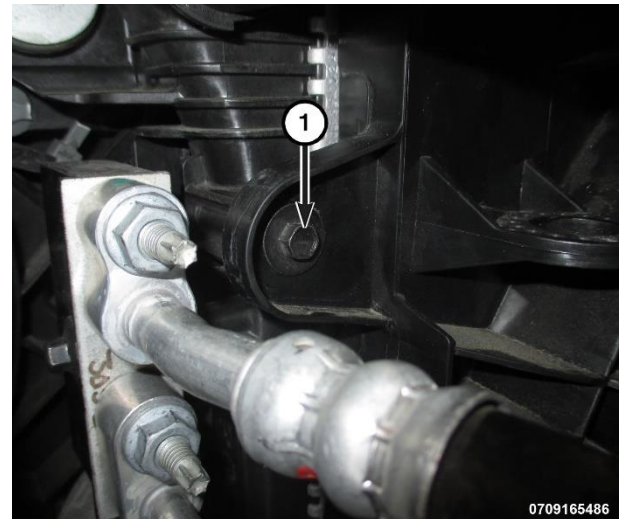

Figure 95 – Left Cooling Fan Bolt
8. Remove the left cooling fan bolt (1) (Figure 95).